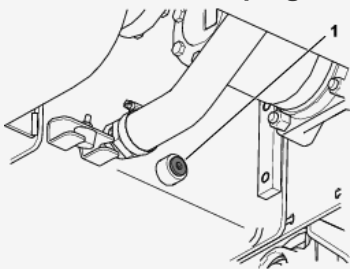

Figure 63
9. Remove the drain plug and allow the hydraulic fluid to drain into the pan (Figure 63).
1. Remove the 2 bolts and nuts securing the boom to the trencher arm (Figure 63).